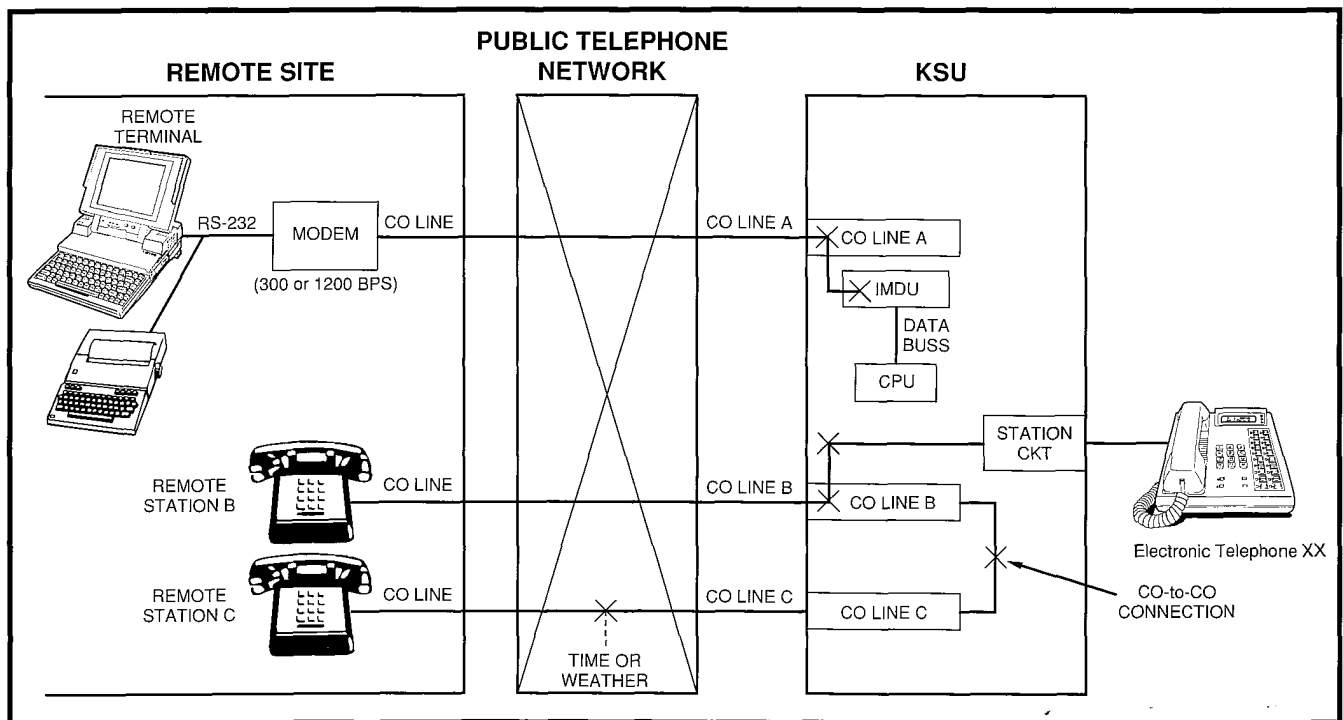

FIGURE 5—TEST MODE FUNCTION DIAGRAM
10.02 This testing function is accomplished by accessing stations from the remote terminal, and activating various buttons on the electronic telephone to make telephone calls, set function buttons, change the system time and date, etc. (see Figure 5).
10.11 To test CO line transmission, two or three CO lines must be available at the remote site (see Figure 5).